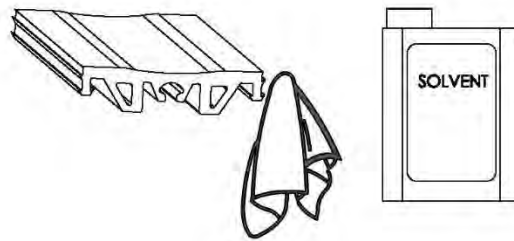

Figure 2
2. Position the elastomeric seal into position and push the seals bulbs into the extrusion channels as shown. Make sure the bulbs are seated all the way into the channel (stagger seams, as necessary). **See Figure 2**
2. Position the elastomeric seal into position and push the seal bulbs into the extrusion channels as shown. Make sure the bulbs are seated all the way into the channel (stagger seams, as necessary). **See Figure 2**
2. Using a solvent (by others) that is safe for elastomeric materials clean the ends of the seals. **See Figure 2**